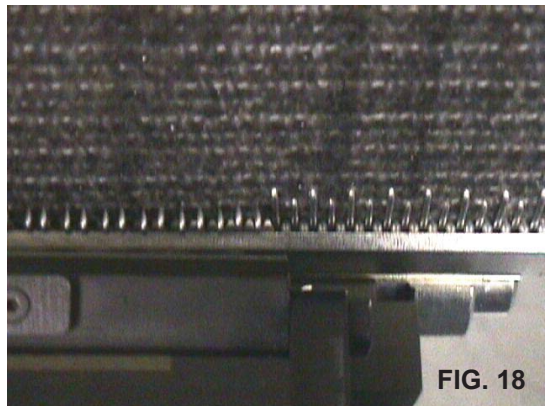

FIG. 18
4. Insert last laced hooks into the extra deep slots (See Fig. 18).